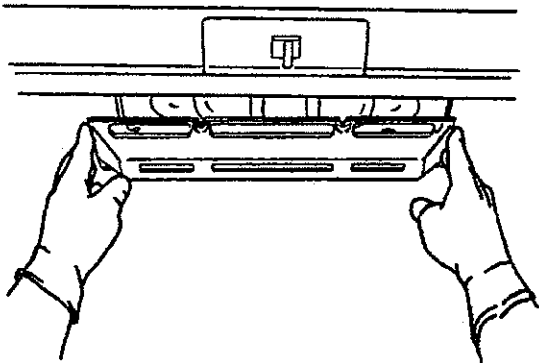

Figure 86
- Slide cover toward rear compartment wall to remove. See Figure 86.